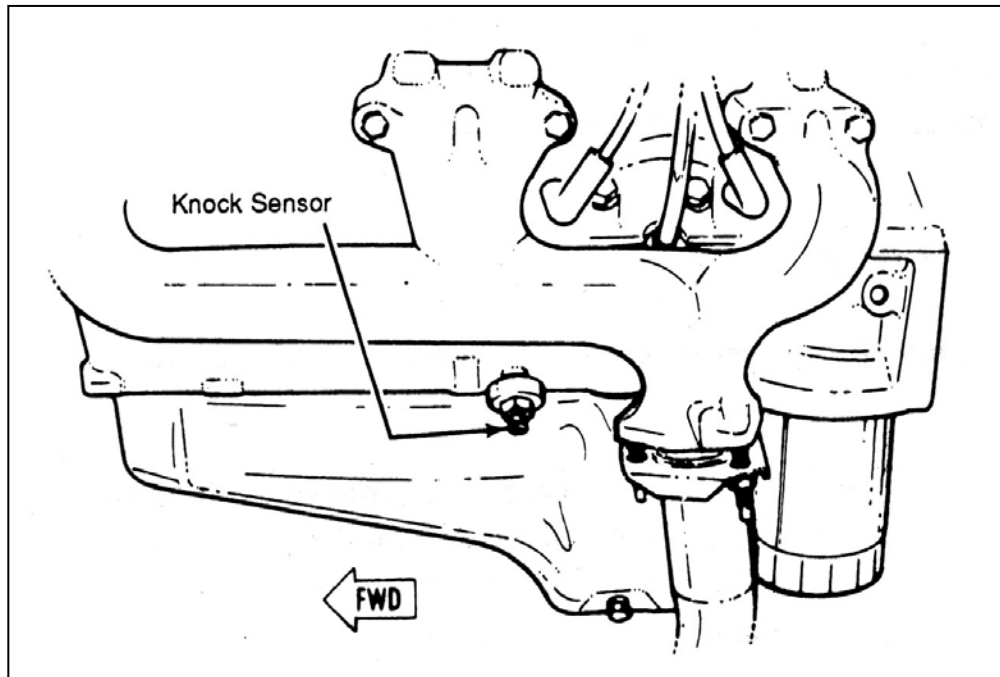

Figure 6.9 Knock Sensor
- If you have headers you may have to relocate the knock sensor for proper clearance. See **Figure 6.9**.